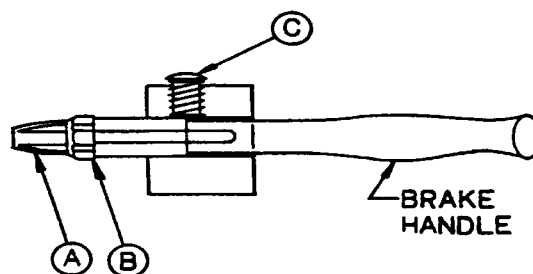

fig. 9
1. Loosen the locking nut on the brake handle. (Item B, fig. 9)
2. Turn the brake adjuster (Item A, fig. 9) out, away from the handle, a few turns.
4. When the brake "holds", the correct adjustment is reached. Re-tighten the locking nut. (Item B, fig. 9).